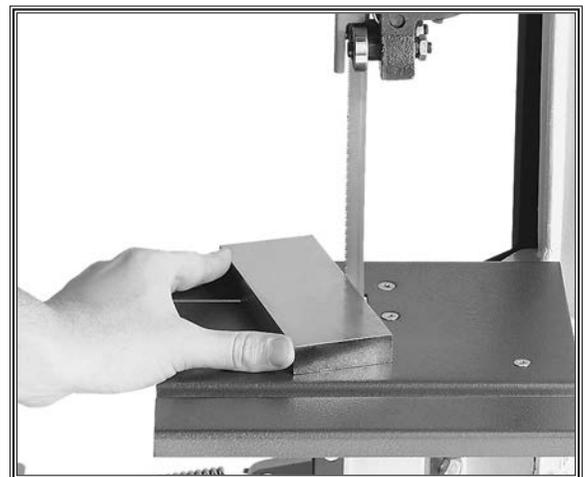

Figure 20. Proper bandsaw vertical starting position.
- Always keep your fingers away from the blade and always hold the workpiece securely in your hand (see **Figure 20**).